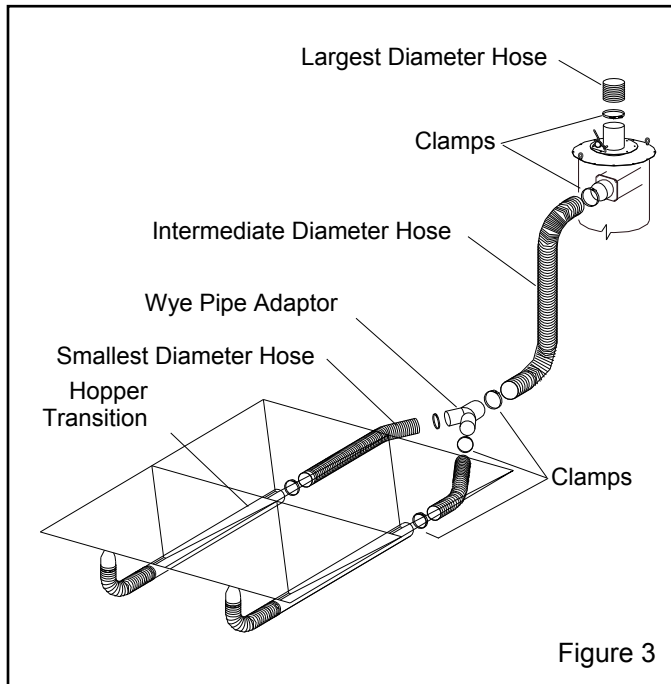

Figure 3
2.4 Connect Conveying Hose, Figure 3